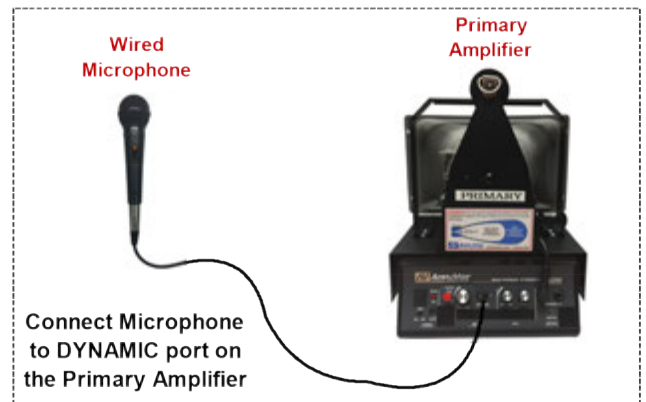

Figure 2
3. Wired microphone option *(See Figure 2)*